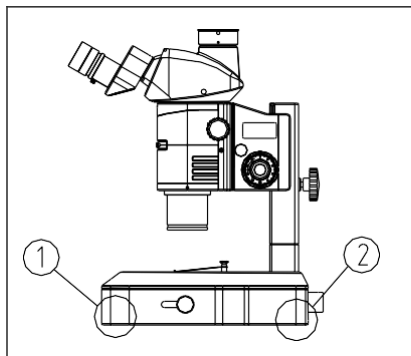

Fig. 1
3. When moving the microscope, use both hands to hold the position① and ② of the microscope. (See Fig. 1)